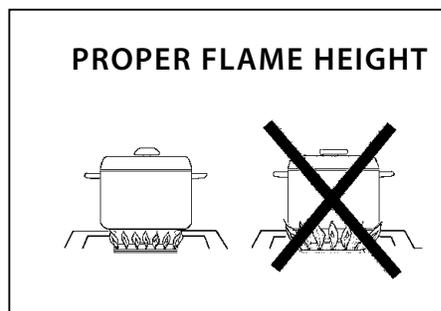

FIG. 08
- For safety reasons the flame must never extend beyond the bottom of the cooking utensil. Never allow flames to curl up the side of the pan (see Fig.08).